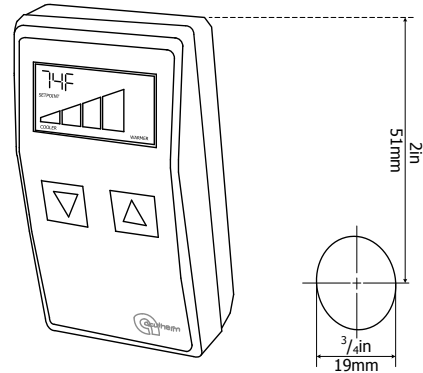

Fig. 2 – Drill hole
1. Drill a  $\frac{3}{4}$ in/19mm diameter hole in the wall 2in/51mm below the center of where the top of the Adjuster is to be located (Fig. 2).